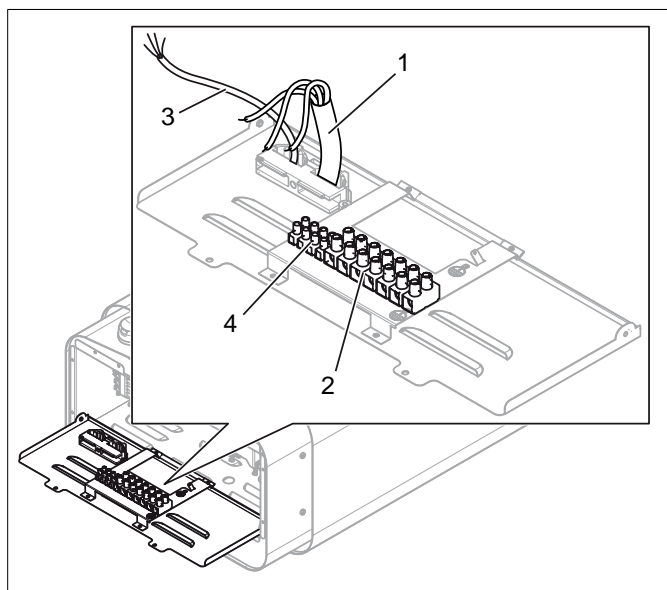
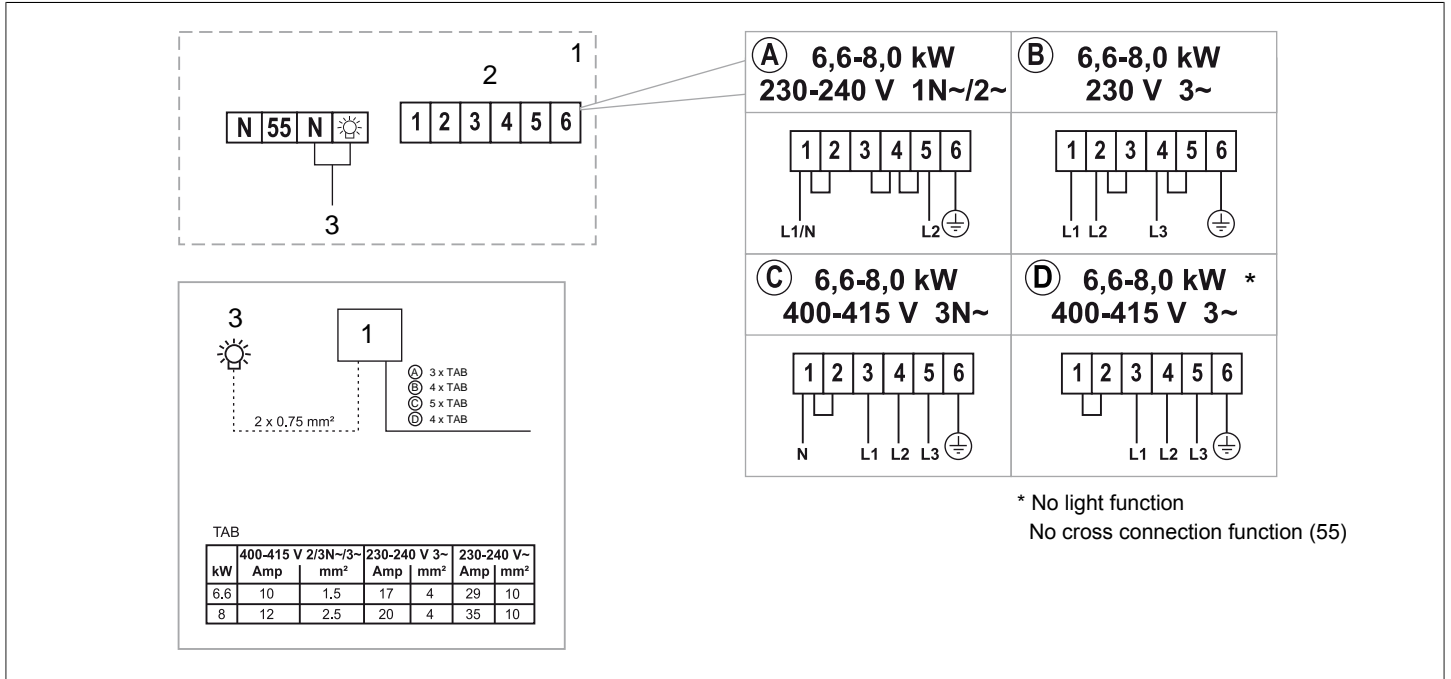

Figure 6: Circuit board
Figure 12: Wiring diagram
Connect the electrical cable (1) to terminal (2) (see **Figure 6**, Page 4) according to wiring diagram (see The section called **Connection/wiring diagram**, Page 6).
4. Connect light cable (if relevant) (3) see **Figure 6**, Page 4 to terminal (4) according to the wiring diagram **Figure 12**, Page 6.
Before connecting to voltages or numbers of phases not listed in the wiring diagram **Figure 12**, Page 6, contact Tylö Customer Service.